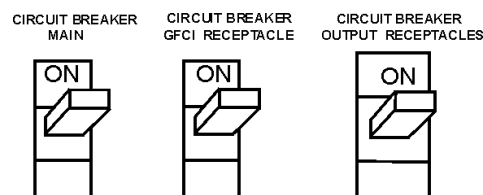

Figure 62. Main and GFCI Circuit Breakers
19. Turn the MAIN, GFCI and LOAD circuit breakers to their ON position (Figure 62).